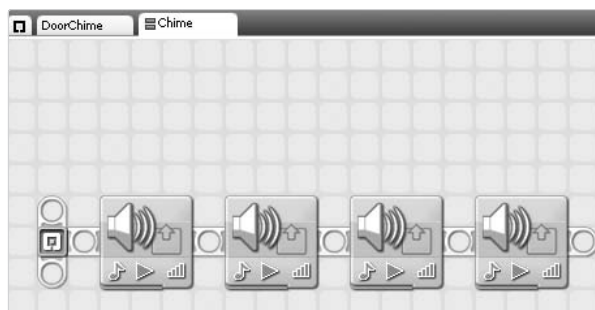

Figure 13-11: Editing the Chime block
3. The blocks that make up the Chime block should look like Figure 13-11.